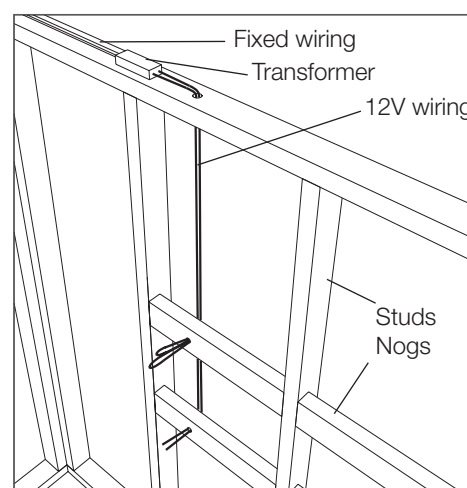

Fig 1.0
- For stud walls drill a 10mm hole in the noggin for the low voltage wiring supplied at the leg position chosen. Typical layout see Fig 1.0 Table 1.0 for fixing dimensions.